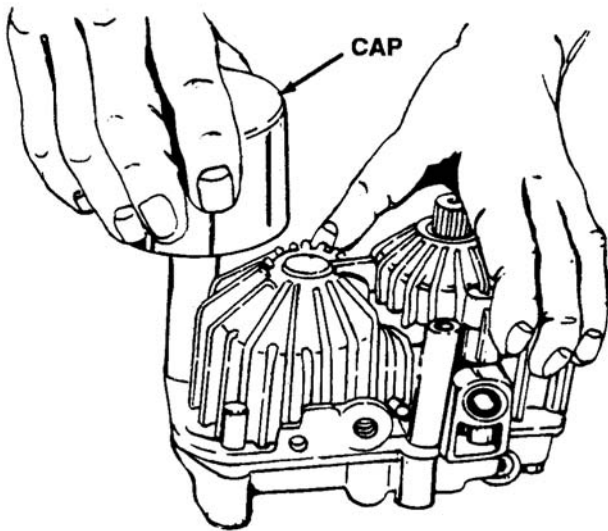

Figure 6-10. Oil Tank Cap Removal
- a. Unscrew the cap. (This cap has a left-hand thread.) See Figure 6-10.